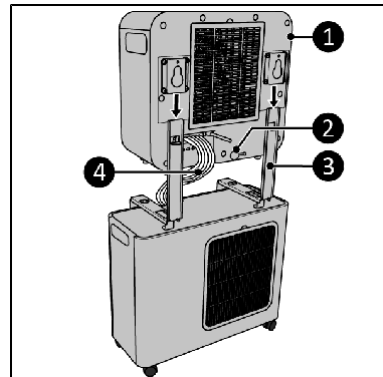

Figure 10
3. Position the indoor unit (Fig. 10, Ref. 1) onto the wall mounting brackets (Fig. 10, Ref. 3).
4. Route the refrigerant hose (Fig. 10, Ref. 4) between the indoor unit and the outdoor unit, ensuring a minimum bending radius of 30 mm.
5. Remove the sealing plug from the condensate outlet (Fig. 10, Ref. 2).